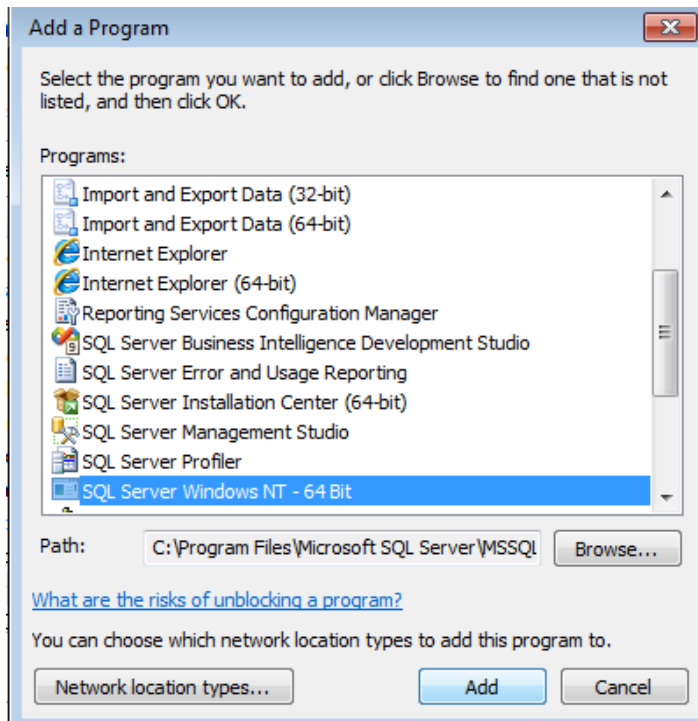

Fig.1.27 Browse
(12)Click “Add” button to add sqlservr to Allow Programs (see Fig.1.27).